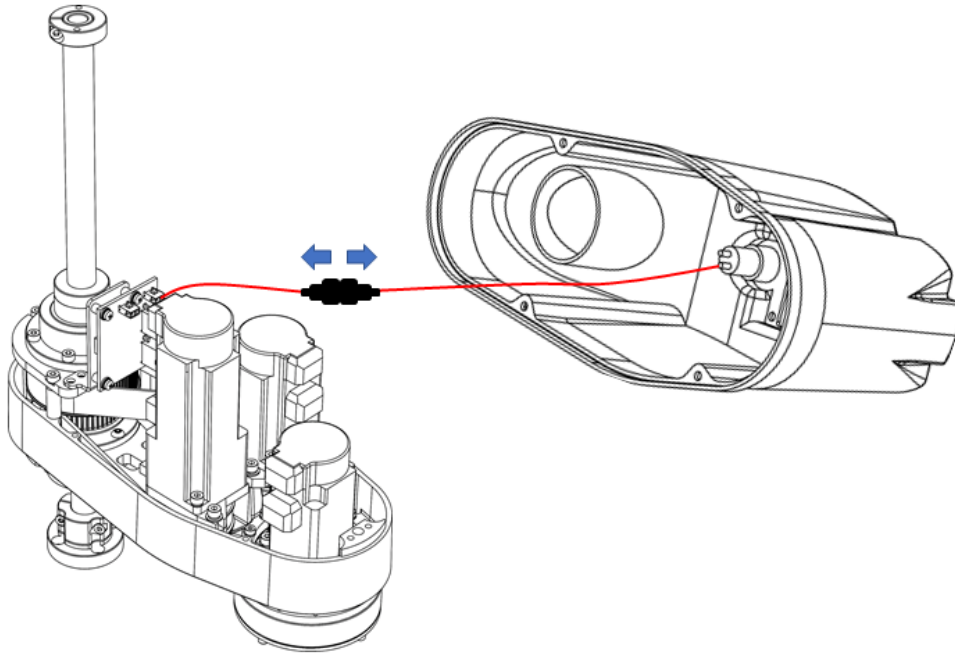

Figure 4-18 Connector of system indicator
- Step 3** Disconnect the connector of the system indicator from the robot interface, and pull the shell to the other end in the direction of the bellows, as shown in Figure 4-18.